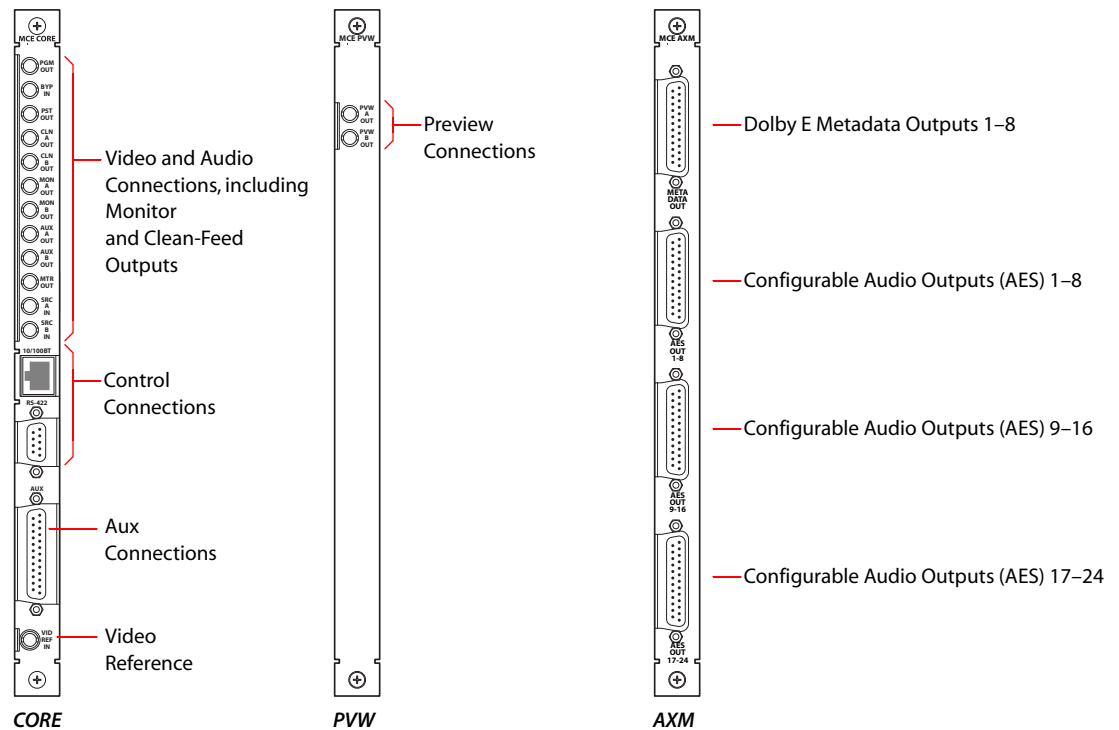

Figure 2-5. MCE Backplanes
Figure 2-5 shows the (3) backplane connectors of the MCE: